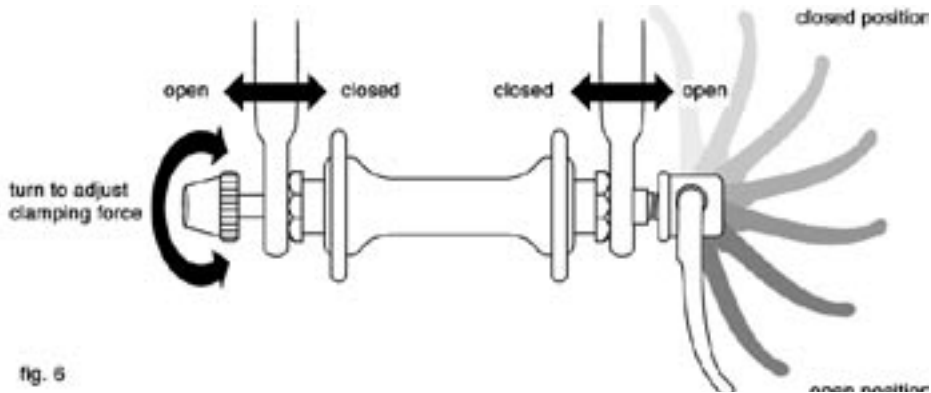

fig. 6
The wheel quick release uses a cam action to clamp the bike's wheel in place (see fig. 6). Because of its adjustable nature, it is critical that you understand how it works, how to use it properly, and how much force you need to apply to secure the wheel.
(3) Holding the quick-release lever in the OPEN position with your right hand, tighten the tension adjusting nut with your left hand until it is finger tight against the fork dropout (fig. 6).
(4) While pushing the wheel firmly to the top of the slots in the fork dropouts, and at the same time centering the wheel rim in the fork, move the quick-release lever upwards and swing it into the CLOSED position (fig. 6 & 7a). The lever should now be parallel to the fork blade and curved toward the wheel. To apply enough clamping force, you should have to wrap your fingers around the fork blade for leverage, and the lever should leave a clear imprint in the palm of your hand.
- (1) Make sure that the rear derailleur is still in its outermost, high gear, position.
- (2) Pull the derailleur body back with your right hand.
- (3) Move the quick-release lever to the OPEN position (see fig. 6). The lever should be on the side of the wheel opposite the derailleur and freewheel sprockets.
- (4) Put the chain on top of the smallest freewheel sprocket. Then, insert the wheel into the frame dropouts and pull it all the way in to the dropouts.
Some bikes are equipped with a quick-release seat post binder. The seatpost quick-release binder works exactly like the wheel quick-release (Section 4.A.1). While a quick release looks like a long bolt with a lever on one end and a nut on the other, the quick release uses a cam action to firmly clamp the seat post (see fig. 6).